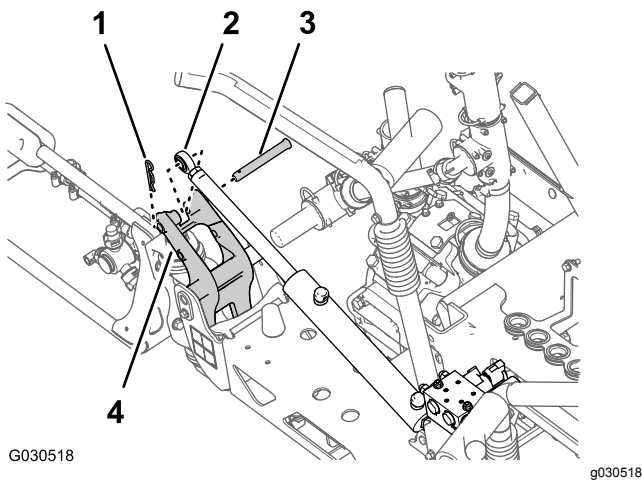

Figure 40
2. Remove the hairpin and clevis pin that secure the rod end of the lift cylinder to the pivot bracket (Figure 40).